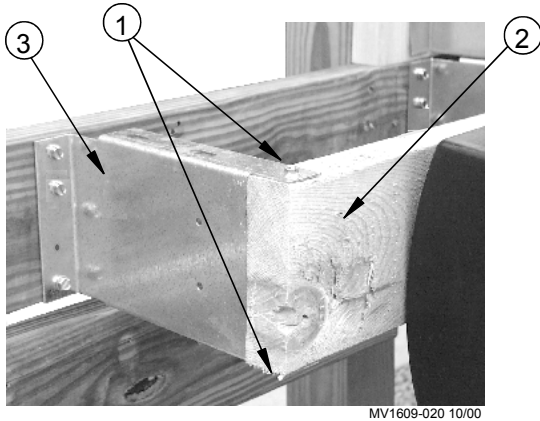

Figure 7. Bottom Bracket Connection
Important! Put lag bolt in the top and the bottom of the Bottom Bracket, as shown in Figure 7.
5. Install trough mounting 2 x 6's the full length of system using Lag Screws provided, shown in **Figure 7**. Use 2X Connecting Brackets (**Item 1, Figure 8**) to join the 2 x 6s together.